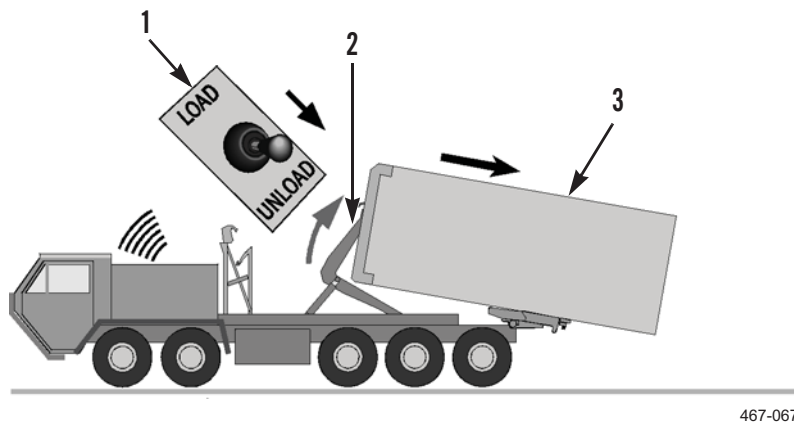

Figure 21. Hook Rises and Pivots Rearward.
- With engine at idling speed, set joystick (Figure 21, Item 1) to UNLOAD, then increase engine speed (maximum 1,500 rpm) (PLS: TM 9-2320-364-14&P, HEMTT: TM 9-2320-326-14&P). Hook (Figure 21, Item 2) rises and pivots rearward pushing container (Figure 21, Item 3). NO TRANS light turns on (PLS: TM 9-2320-364-14&P, HEMTT: TM 9-2320-326-14&P).